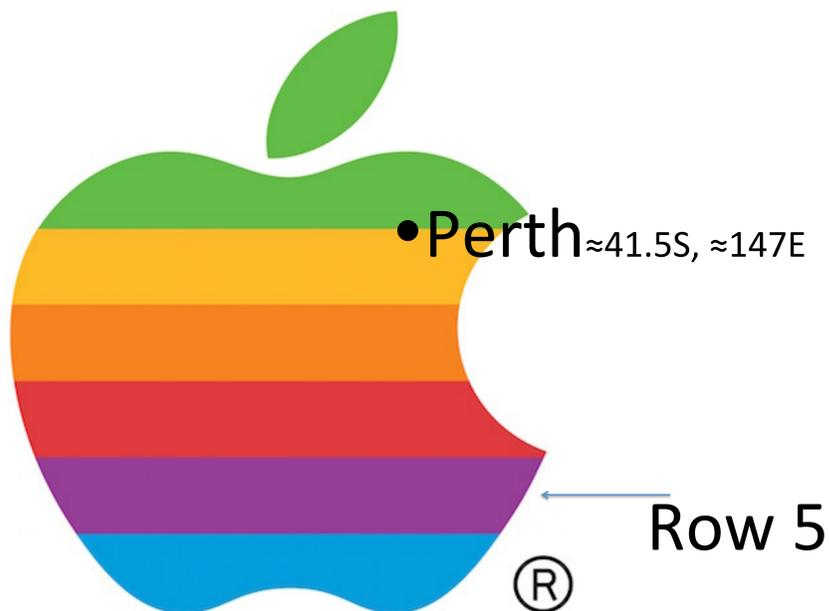

Figure 1: A colourful representation of the Apple Isle or Tasmania, (courtesy of Apple Inc.)
Below in Figure 1 is a colourful 'representation' of the Apple Isle of Tasmania. It also shows another location also called 'Perth'. Figure 2 shows the old Perth Post Office in Tasmania.
One of our statistical problems is similar to the estimation of the height or thickness of say the purple band (row 5 in Figure 1 below).
The size (in pixels) of the JPEG picture in Figure 1 is 436 (horizontal) by 480 (vertical) with 72dpi (dots-per-inch).
- Take a vertical transect through the middle of the JPEG file in Figure 1. The manual way is to measure with a ruler or instrument the height of the band in the centre and a point on either side of the middle of the JPEG file (i.e. 3 replicates and take the average).
- There are 10 possible subsets of colour in Figure 1 including the white background. We can find the number of pixels and convert to centimetres using the dots-per-inch.